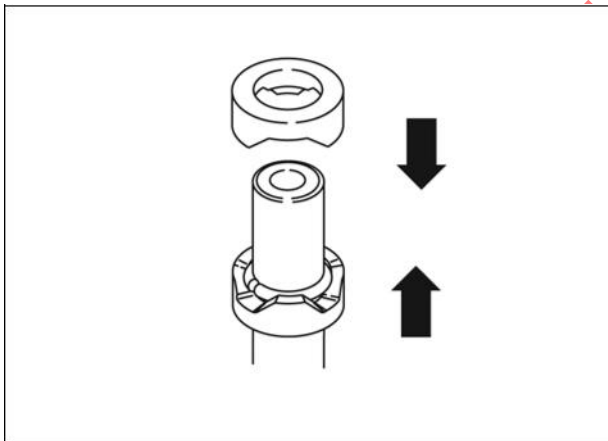

Figure 56
7. Install drive housing (Figure 56).